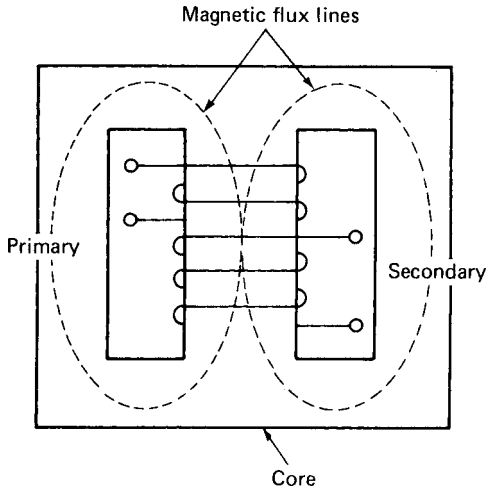

Figure 8-14 Shell-core transformer.
3. *Shell-core:* This is the most efficient type of transformer. Figure 8-14 shows the design characteristics. Note how the magnetic flux pattern containment improves the efficiency.